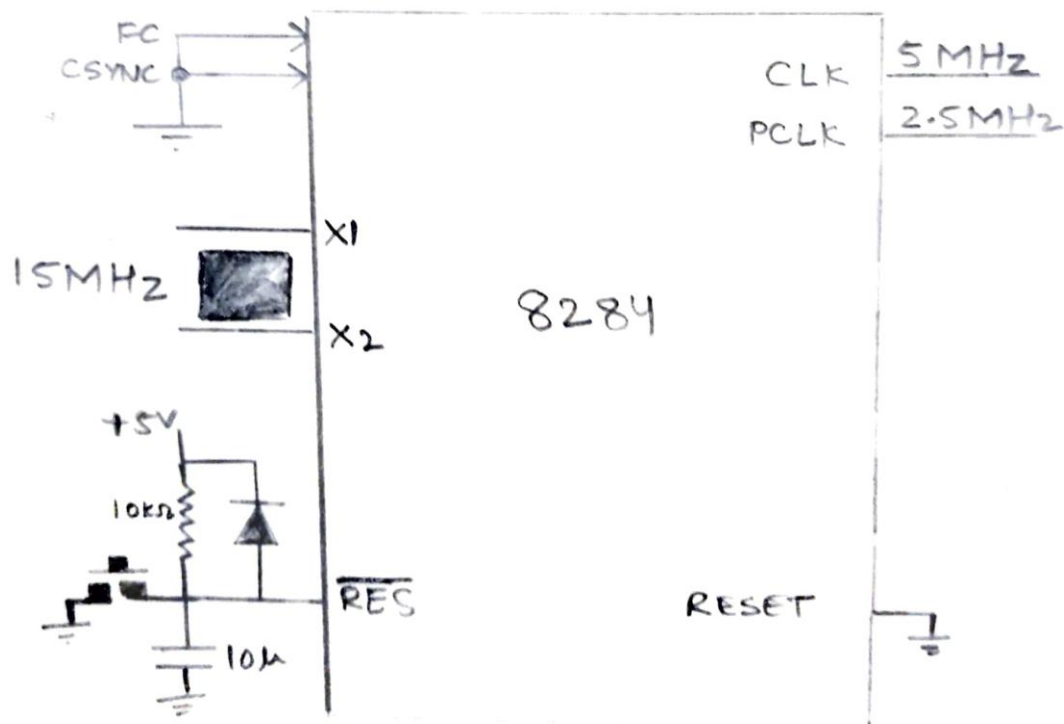

Fig 19.11
2. 8284 clock generator	(Fig 19.11)